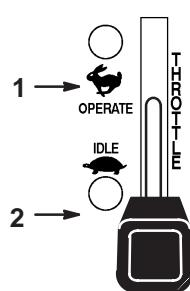

Figure 9
6. Move throttle lever midway between the slow and fast throttle positions (Fig. 9).
2. Move the throttle lever to slow (Fig. 9).
When the PTO clutch light is on it indicates the PTO clutch must be disengaged before the engine will start (Fig. 9).
When the oil light blinks it indicates the engine oil pressure is low (Fig. 9). After the engine starts the light should go out. When the engine is running if the oil pressure drops below a safe operating level the light blinks. Stop engine immediately and correct the cause of low oil pressure.